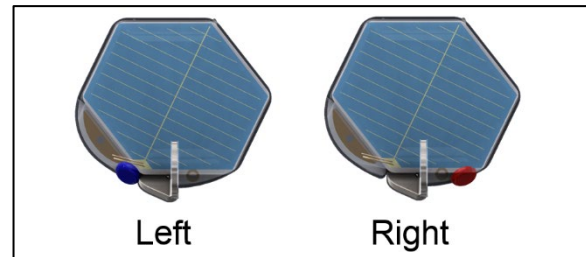

Figure 10: Grasping Tab Centered Below Photodetector
- o **Grasping Tab centered below Photodetector (Figure 10):** When facing the Photodetector, the Grasping Tab is located below and centered. A right Lens will have a red dot located on the right side and a left Lens will have a blue dot located on the left side.